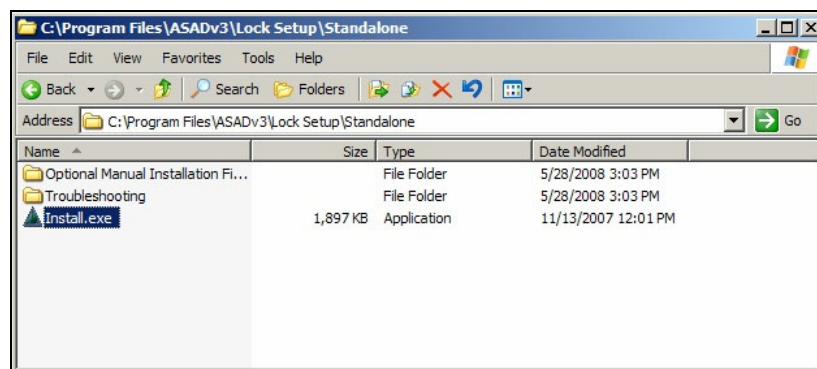

Figure C.18
- a) Run the 'Install.exe' program from the 'C:\Program Files\ASADv3\Lock Setup\Network\Server...' subdirectory. (see figure C.18)